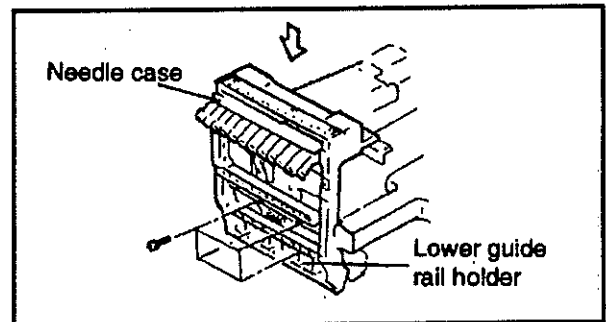

FIG.3
(3) Secure the lower guide rail holder with four retaining screws (a), while pushing the needle case down (Fig.3).